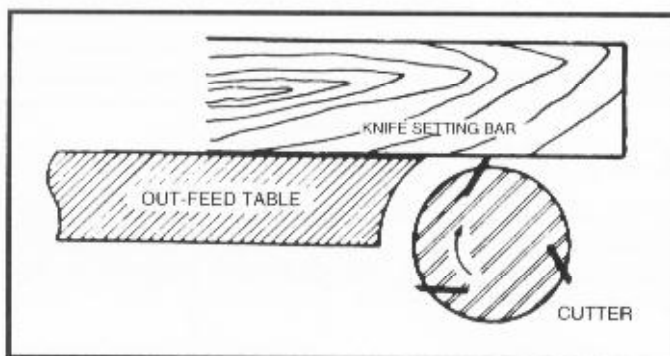

Fig. 39
3. Place a knife setting bar made of a piece of hardwood, approximately 12" long, jointed straight on one edge, on the rear table as shown in Fig. 39.